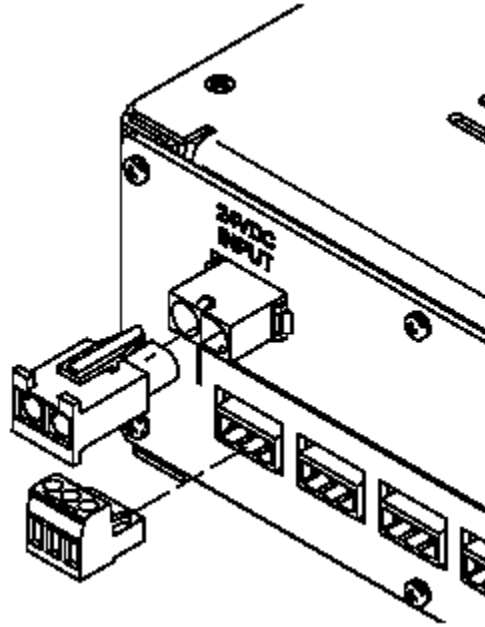

Figure 6. DC Power Supply Rear Panel.
- Figure 6: DC Power Supply Rear Panel
In many telecommunications applications equipment is powered by 48 Volt DC power. If the user desires, or is required to use 48 volts, EMS offers a DC supply for deployment with the EkoLite II system, as shown in Figure 6.